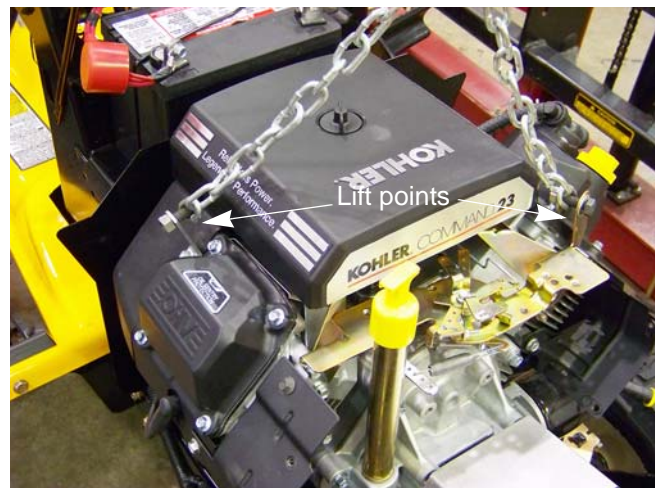

Figure 2.25
13. Attach a lift chain to the engine's lifting points. See Figure 2.25.